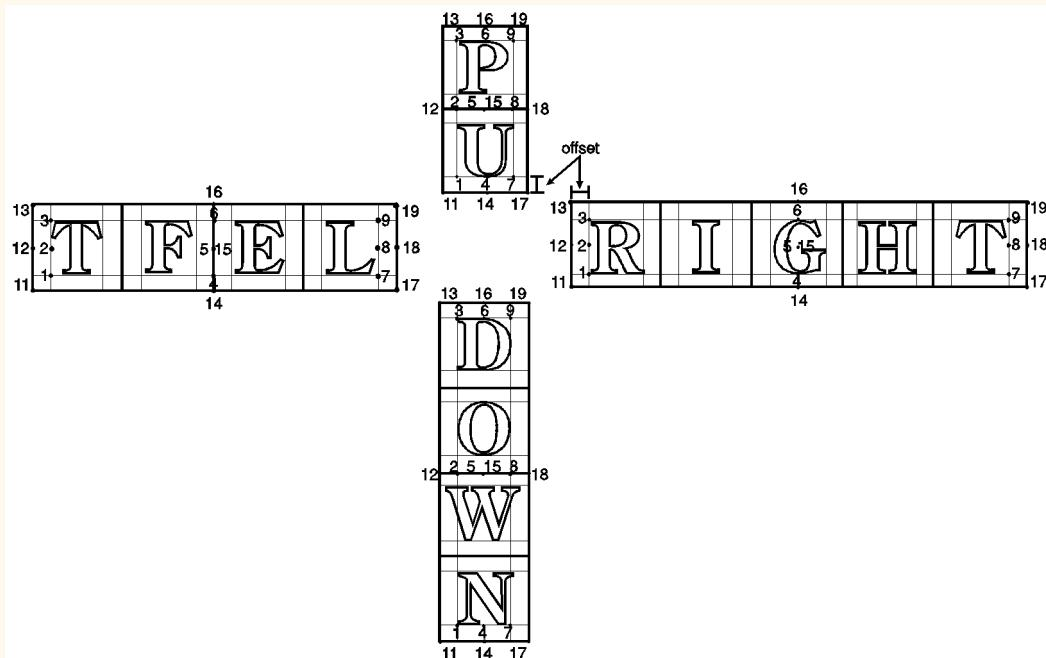

Figure 116. Label Origin Positioning
- **position:** Specifies the label location relative to the current pen location. Values 1, 2, 3, 11, 12, or 13 left-justify the label; values 4, 5, 6, 14, 15, or 16 center the label; and values 7, 8, 9, 17, 18, or 19 right-justify the label. Values 11, 14, or 17 position the character cell above the current pen location; values 13, 16, or 19 position the label below the current pen position or at intermediate points. Values 1 to 9 position the character cell relative to the current pen position; values 11 to 14 and 16 to 19 offset the labels (the offset is one-quarter of the character's point size, or one-third of the point size [16 grid units] for stick fonts). Left and right are interpreted relative to the character baseline; above and below are relative to the character-up vector. The position numbers are graphically illustrated in Figure 116. Each dot represents the current pen location.
The label position 21 provides a PCL-compatible label origin. The character(s) are printed at the same location as in PCL. (Label position 21 is not shown in Figure 116 because the exact location is dependent on the PCL position.)
LO positions are applied to imaginary box drawn round the label on a line-by-line basis, regardless of the text path set by DV. *Figure 116* shows LO positions for each of the possible text paths. Note the horizontal and vertical offsets for values 11 to 14 and 16 to 19.